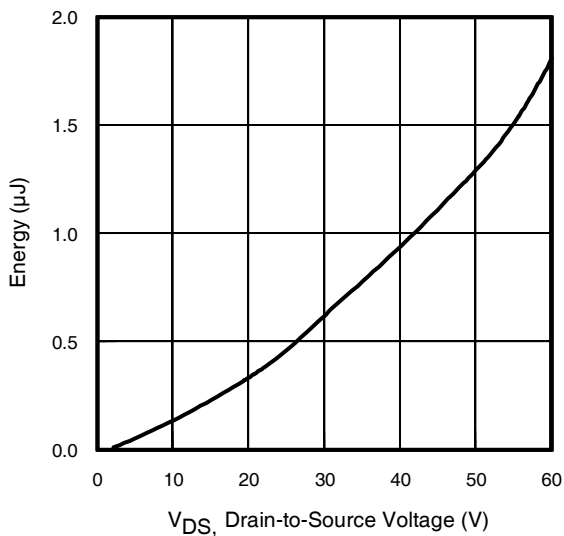

Fig 11. Typical C_{OSS} Stored Energy
| C _{oss eff. (ER)} | Effective Output Capacitance (Energy Related) | — | 1040 | — | | V _{GS} = 0V, V _{DS} = 0V to 48V ^⑦ , See Fig.11 |